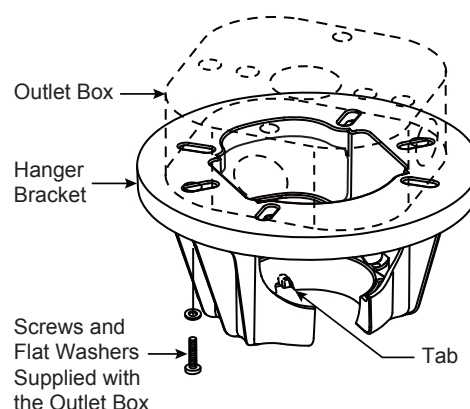
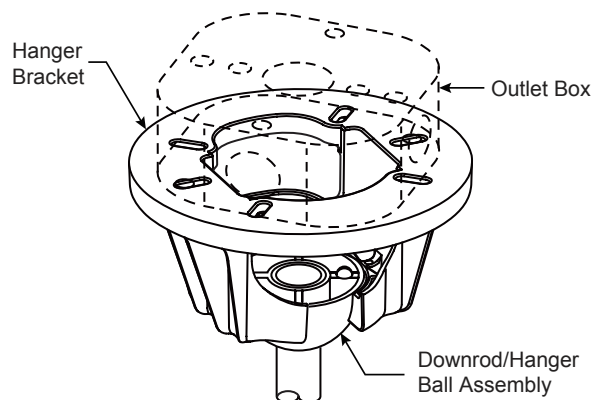

Figure 3
Figure 4
- ☐ 1. Securely attach the hanger bracket to the outlet box using the outlet box screws and washers supplied with the outlet box. (Figure 3)
NOTE: Outlet box screws pass through slotted holes of the hanger bracket. (Figure 3)
- ☐ 3. Carefully lift the fan and seat the downrod/hanger ball assembly onto the hanger bracket that was just attached to the outlet box. (Figure 4) Be sure the groove in the ball is lined up with tab on the hanger bracket. (Figure 3)